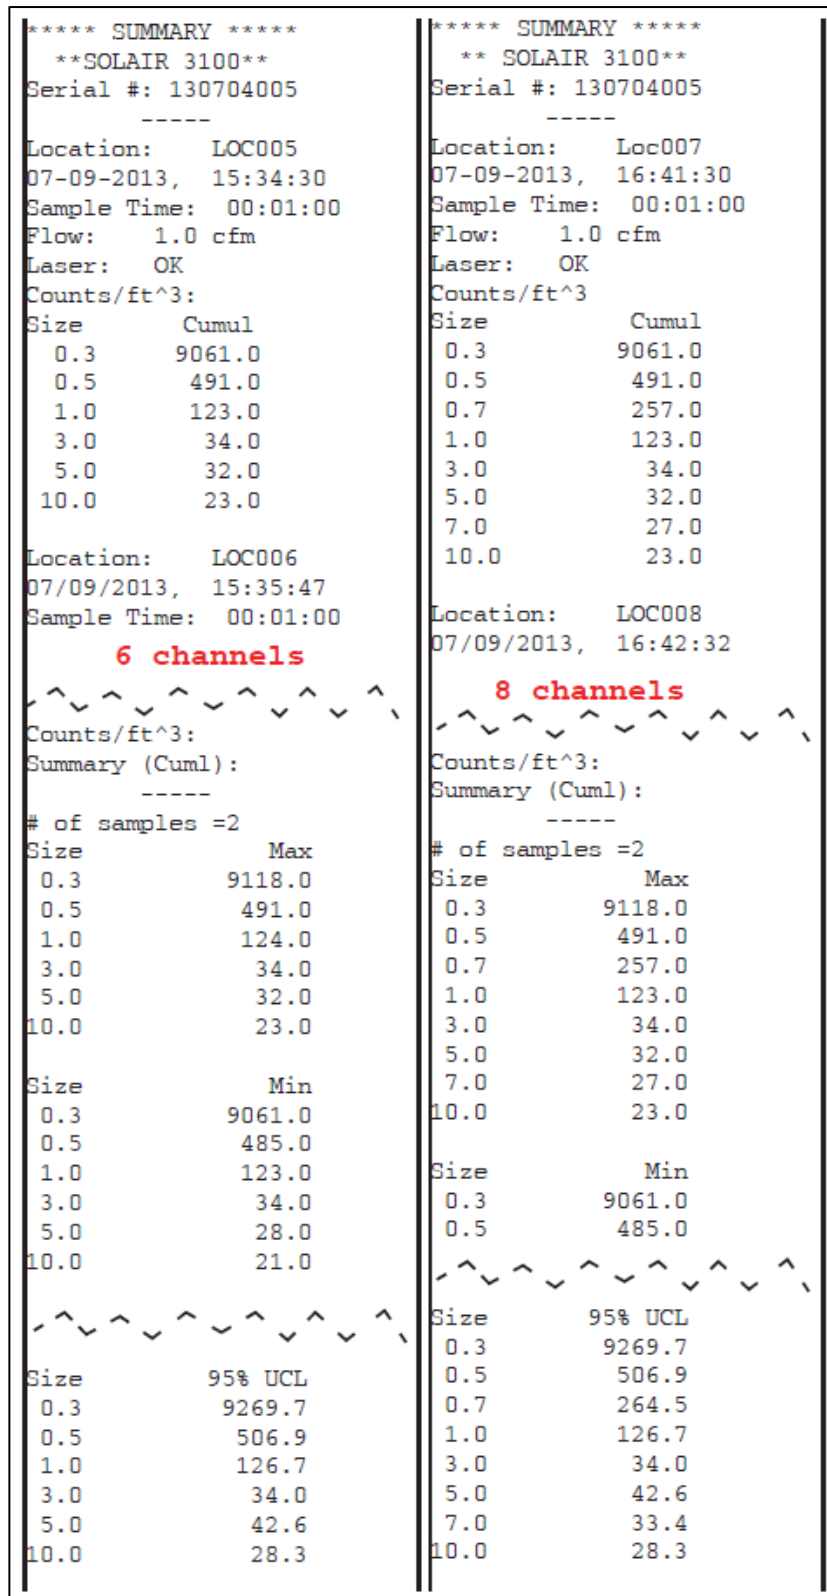

Figure 6-79 Sample Buffer Reports
- Figure 6-79 below, displays sample buffer reports.